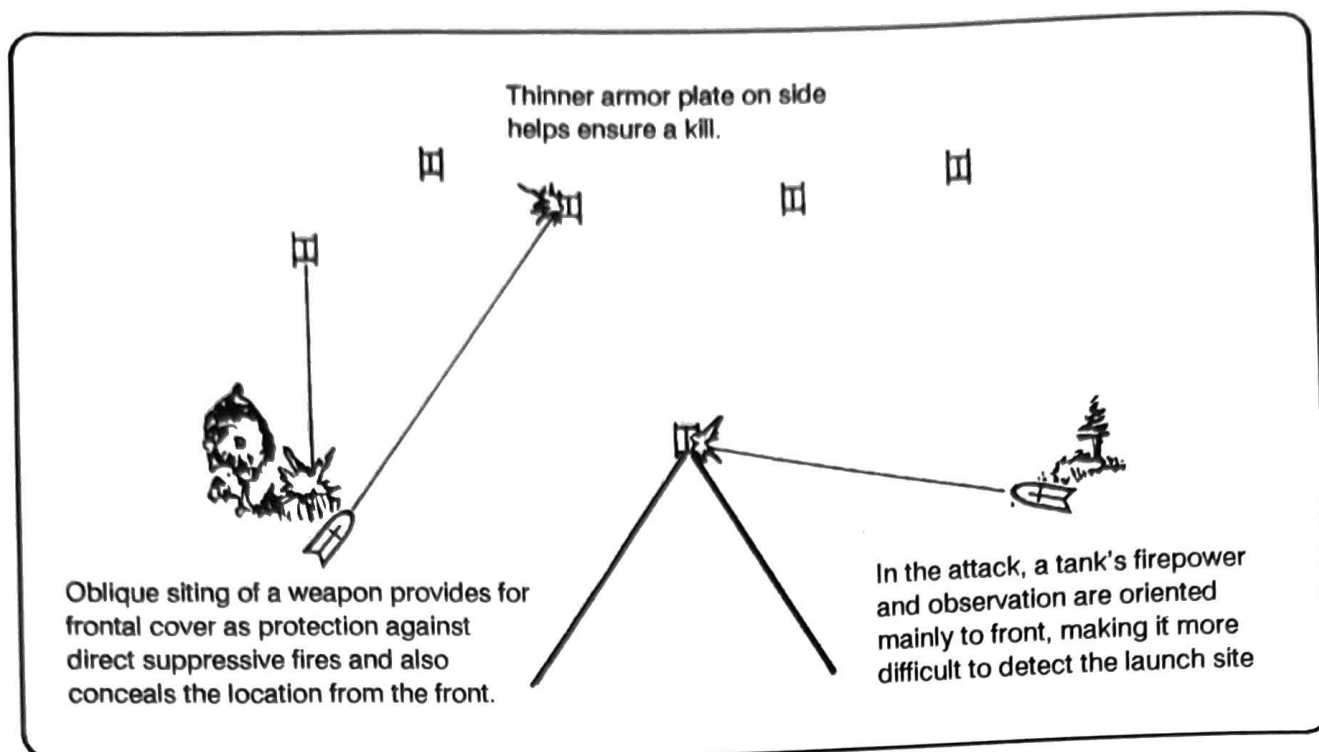

Figure 3-5. Engagement of the enemy with flank or rear shots.
(2) Engage the enemy with flank or rear shots from behind frontal cover whenever possible. (See Figure 3-5.) It is extremely difficult for the enemy to retrace the flight path of a round to its launch site and to reorient his weapons to the firing position when the round moves obliquely across his front, as opposed to being launched from a head-on position. When firing to the oblique, the gunner is protected from enemy fire to his front by constructing a parapet or using natural cover that adds to the enemy's problems in detecting the launch signature. Gunners must never be positioned where they must engage a frontal target.
(3) Avoid positioning gunners so that they must engage targets, mainly tanks, from the front. The missile will probably not defeat a tank hit in the frontal 60-degree arc. Other targets (APCs, CFVs) are also easier to kill from the flanks and rear.
(4) Employ Dragons so they are mutually supporting to provide some